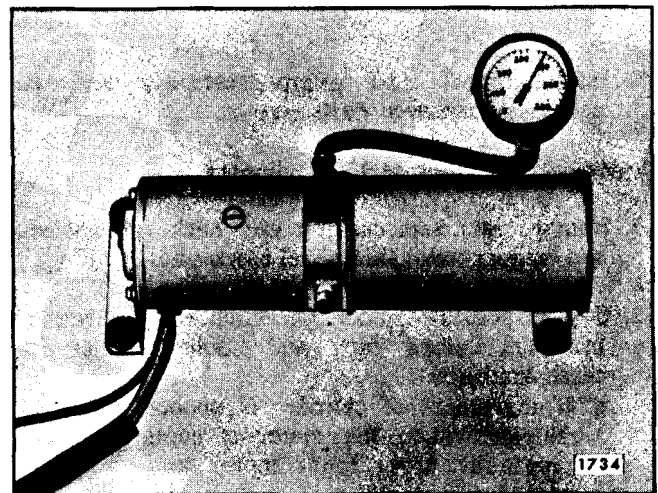

Fig. 12-26-Checking Pump Pressure
2. Install plug in one port, and pressure gauge in port to be checked (Figure 12-26).